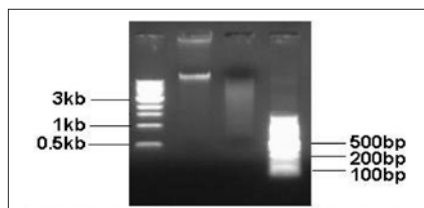

Figure 1. Lane 1–4 (from left to right): 1-kb DNA marker, undigested genomic DNA, *PstI*-digested genomic DNA, 100-bp DNA marker.
3. Evaluate digestion efficiency by loading 2 µL digested DNA on a 1% agarose gel, with an undigested DNA as a control (Figure 1).